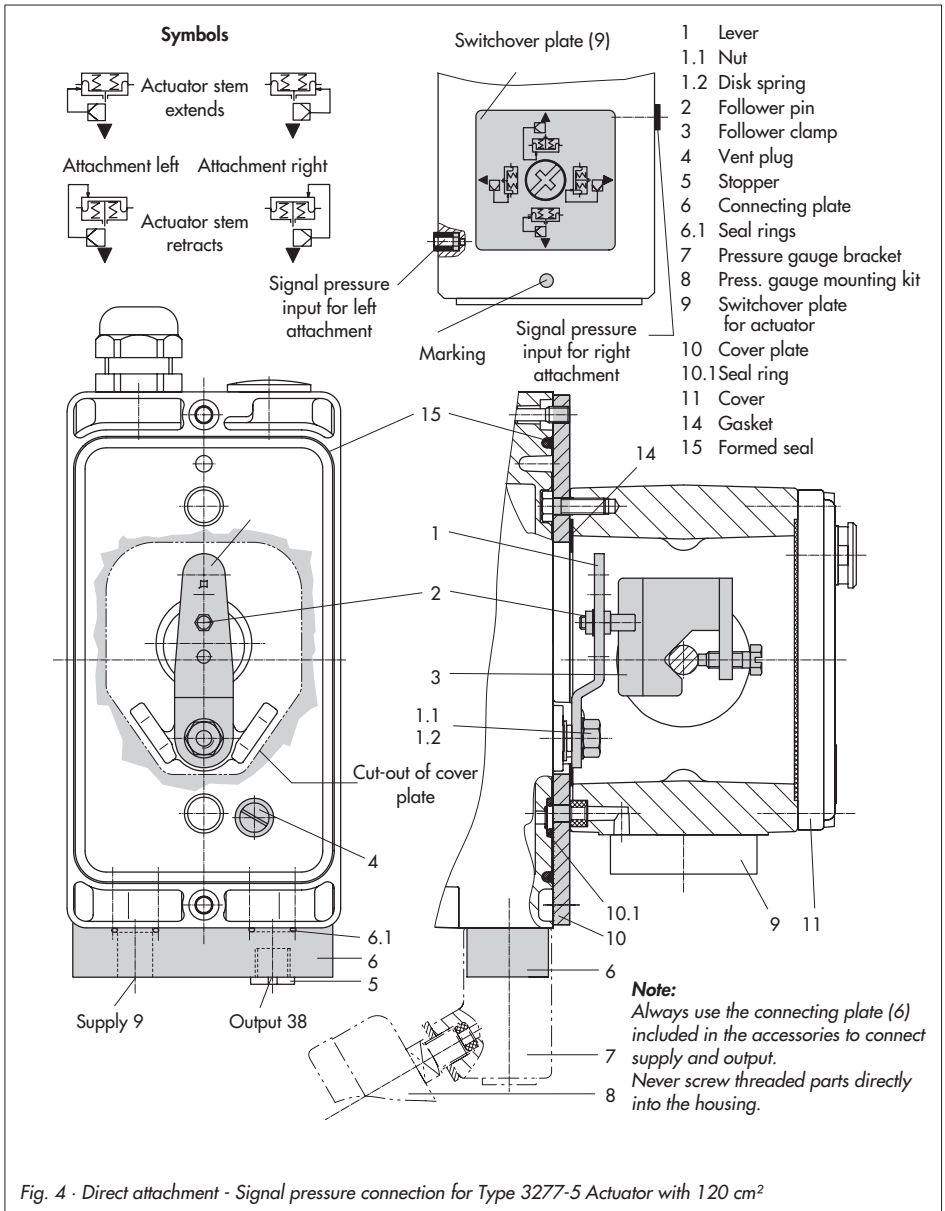

Fig. 4 - Direct attachment - Signal pressure connection for Type 3277-5 Actuator with 120 cm²
1. Mount connecting plate (6) or pressure gauge bracket (7) with pressure gauges onto the positioner, making sure both seal rings (6.1) are seated properly.
2. Remove vent plug (4) on the back of the positioner and close the signal pressure output "Output 38" on the connecting plate (6) or on the pressure gauge bracket (7) with the stopper (5) included in the accessories.
3. Place follower clamp (3) on the actuator stem, align and screw tight so that the mounting screw is located in the groove of the actuator stem.
4. Mount cover plate (10) with narrow side of the cut-out opening (Fig. 4, left) pointing towards the signal pressure connec-